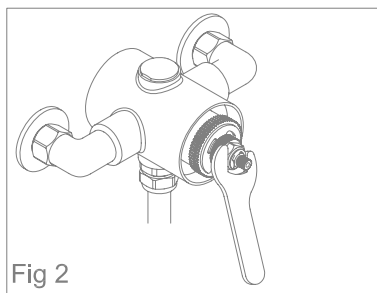

Fig 2
5. Before refitting the cartridge, clean the mixer Fig 2 housing and grease the cartridge o-rings.